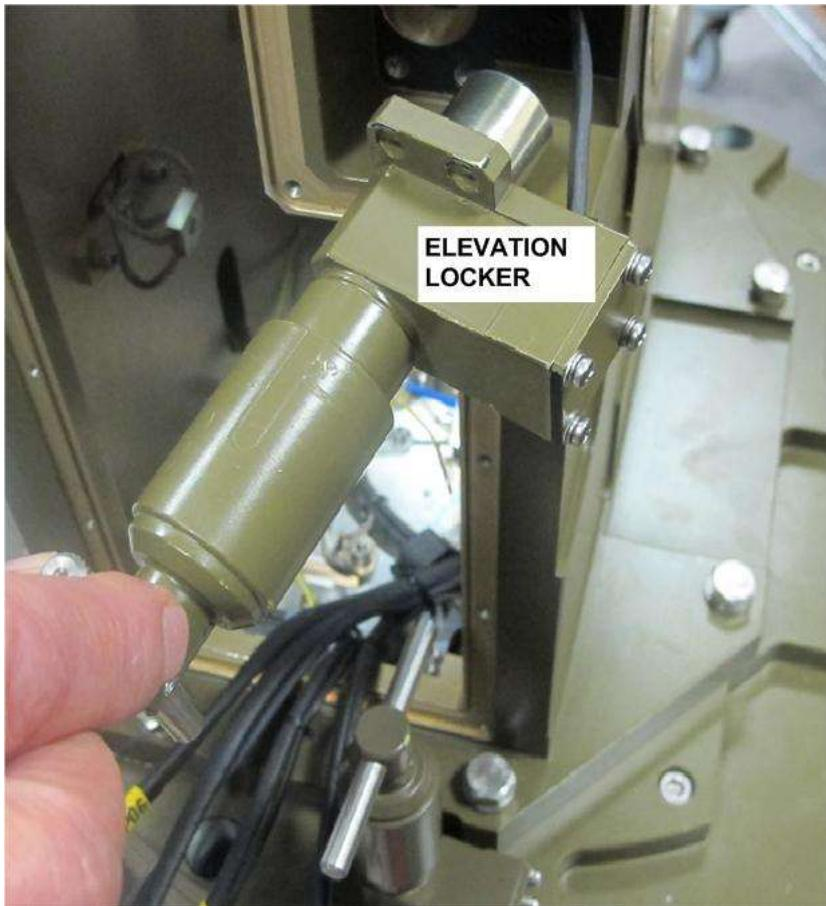

Figure 1-6. Elevation Locker Installation
- c. Elevation locker installed and position it in UNLOCK state (See Figure 1-6)